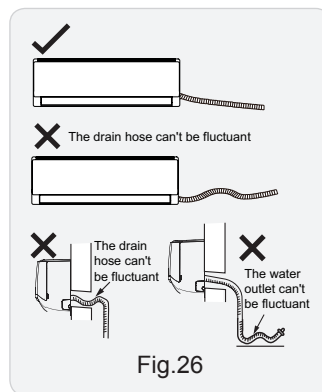

Fig.26
- Slant the drain hose slightly downwards. The drain hose cannot be curved, raised and fluctuant, etc. (As show in Fig.26)